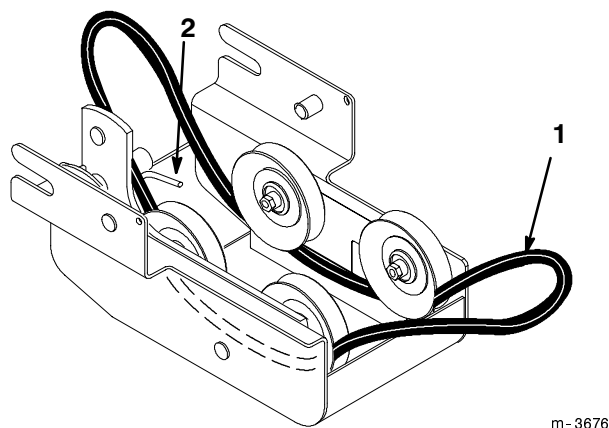

Figure 5
1. Route the snowthrower belt under the pulleys and inside the belt guide (Fig. 5).